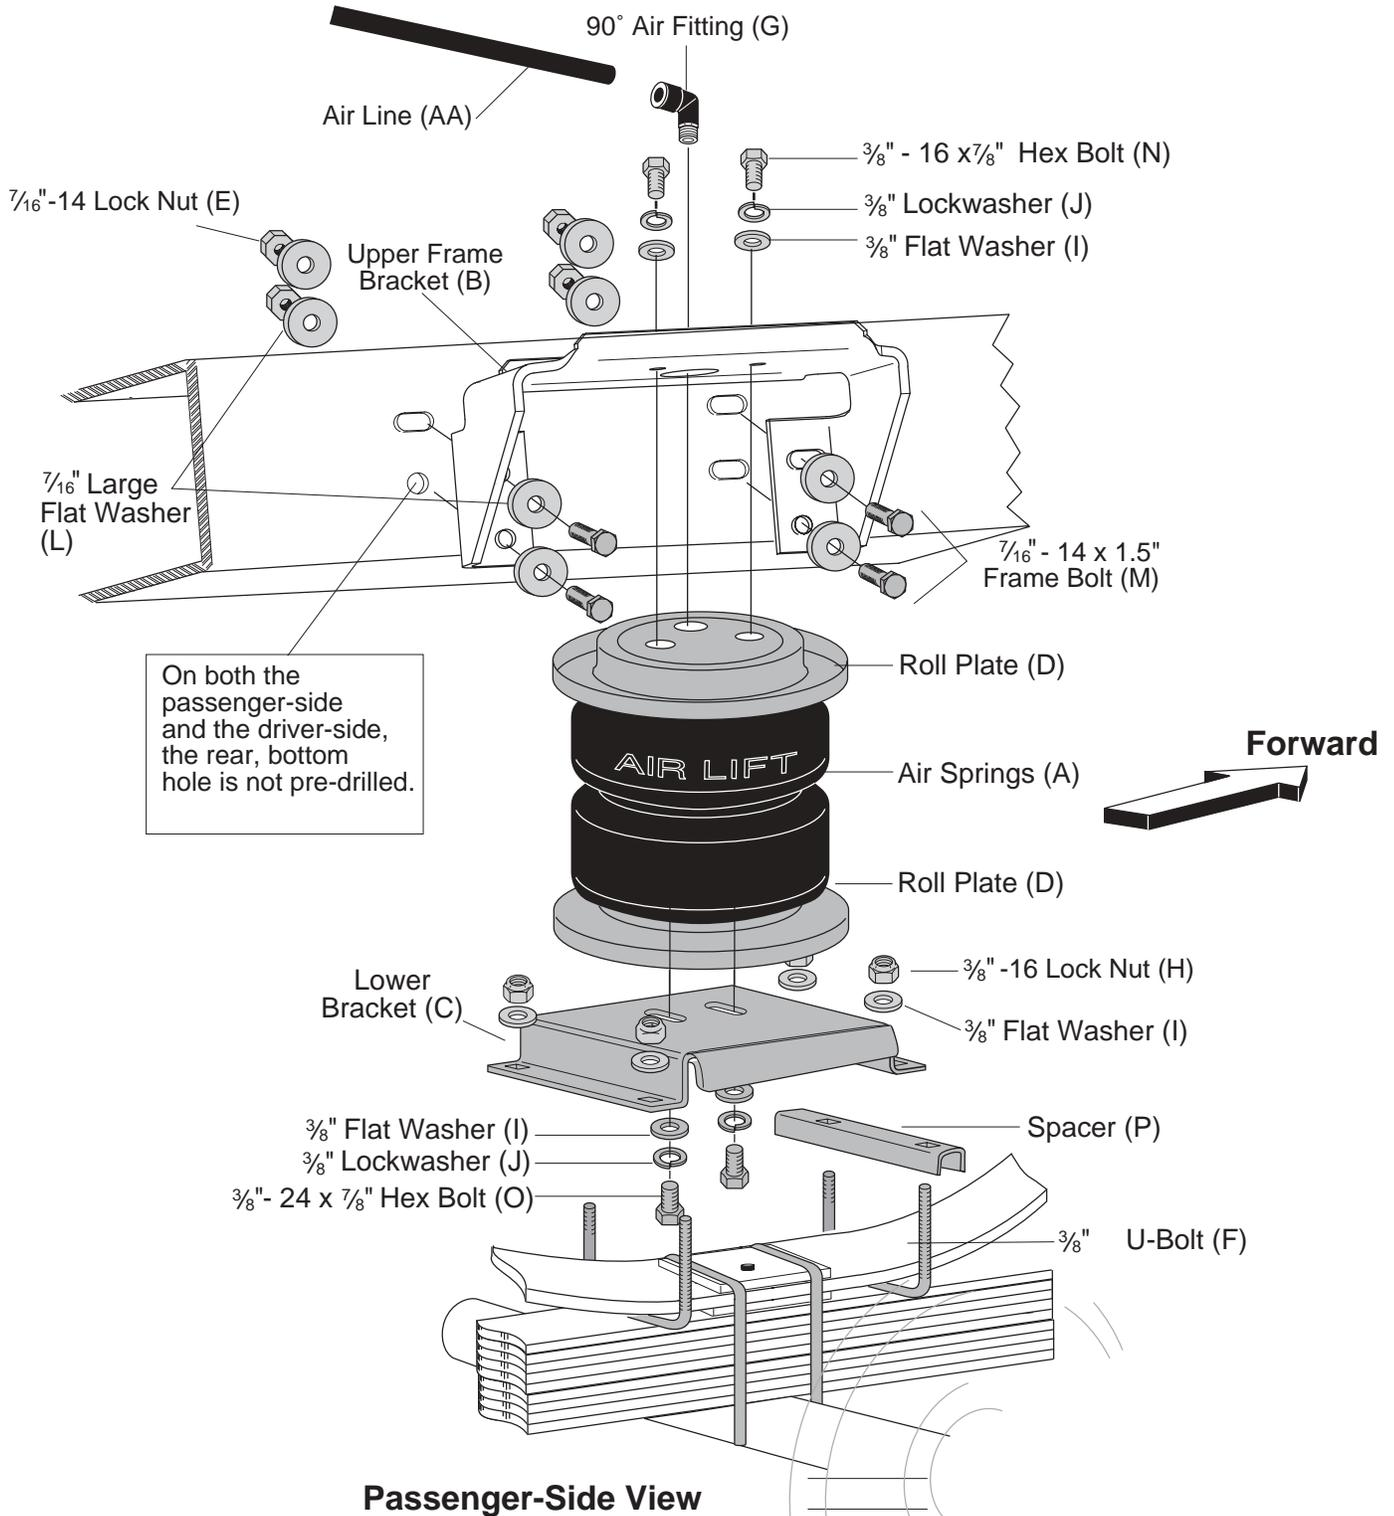
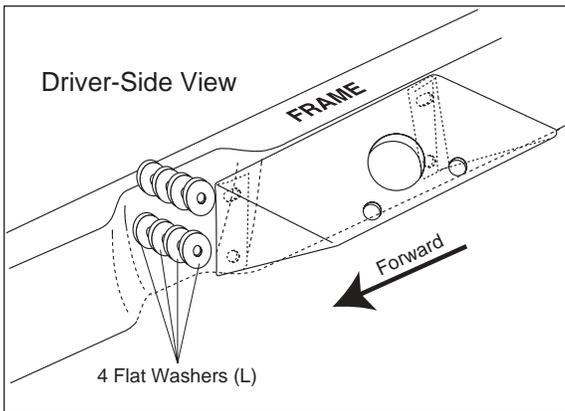

Figure 1
Figure 4
(\* not shown in Figure 1)
1. Set a roll plate (D) on both ends of the air spring (A). The radiused (rounded) edge of the roll plate will be towards the air spring so that the air spring is seated in both roll plates (Figure 1).
2. Install a 90° swivel air fitting (G) finger tight plus 1½" turns (Figure 1). Use a 9/16" open end wrench, being careful to tighten on the metal hex nut only. *Do not overtighten.* This fitting is precoated with sealant.
3. Place the upper bracket (B) onto the top of the bellows and roll plate with the legs facing down. Guide the swivel fitting through the large hole in the center (Figure 1).
4. Place the lower bracket (C) on the air spring so that the flat edge of the lower bracket mounts toward the legs of the upper bracket (inboard). See Figure 1.
5. Attach the upper bracket to the assembly using 3/8" flat washers (I), lock washers (J), and hex head bolts (N). Remember that the legs face down (Figure 1). Tighten securely.
6. Loosely attach the lower bracket to the bellows using 3/8" flat washers (I), lock washers (J), and hex head bolts (O) (Figure 1).
1. Set the air spring assembly on the leaf spring over the axle (Figure 1).
1. Place the short U-bolts (F) under the frame contact overload springs with the threads facing up (Figure 1).
2. Place the spacer (P), legs down, on the front leg of the lower bracket between the frame contact overload and the lower bracket (Figure 1).
3. Attach the lower bracket to the frame contact overload using  $\frac{3}{8}$ " flat washers (I) and  $\frac{3}{8}$ " lock nuts (H) (Figure 1).
2. Using the bottom, rear hole of the upper bracket as a template, center punch and drill one  $\frac{7}{16}$ " hole through the frame (Figure 1).
4. Attach the upper bracket using  $\frac{7}{16}$ " frame bolts (M),  $\frac{7}{16}$ " large flatwashers (L), and  $\frac{7}{16}$ " lock nuts (E).
*NOTE FOR DRIVER-SIDE ONLY: There is an indent in the frame for the shock bracket. When installing the upper bracket, it will be necessary to add four  $\frac{7}{16}$ " flat washers (L) on the top and bottom bolts between the frame and the bracket to properly mount the upper bracket. Fastening hardware is the same as listed in the previous step with the addition of the flat washers (L) (Figure 4).*